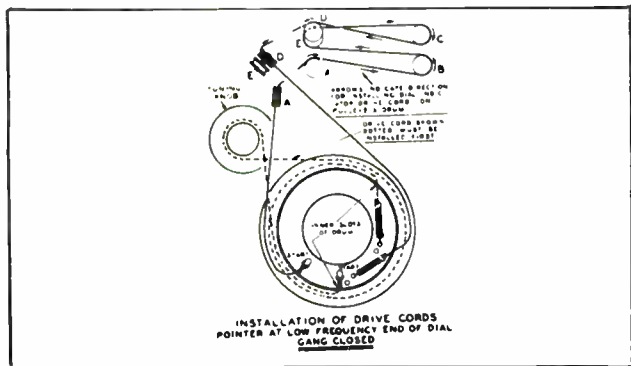

Fig. 8—Dial Pointer and Cable Arrangement, Models 40-205, 40-216.
**NOTE A — Dial Calibration:** In order to adjust the receiver correctly the dial must be aligned to track properly with the tuning condenser. To adjust the dial, proceed as follows: With the tuning condenser closed (maximum capacity), set the dial pointer on the extreme left index line at the low frequency end of the broadcast scale. The arrangement of the drive cable and dial pointer is shown in Fig. 8.